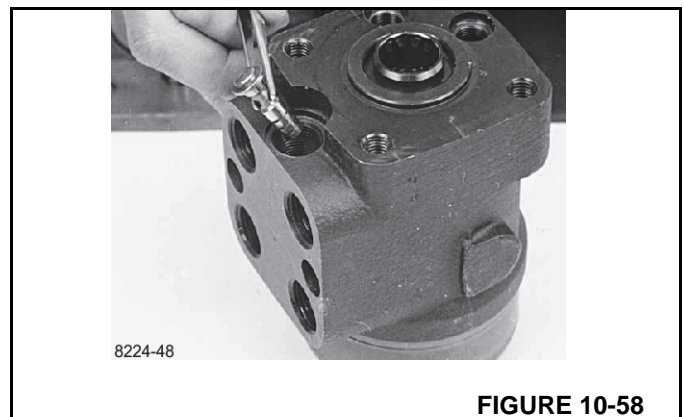

FIGURE 10-58
30. Install the piston and spring (Figure 10-58).